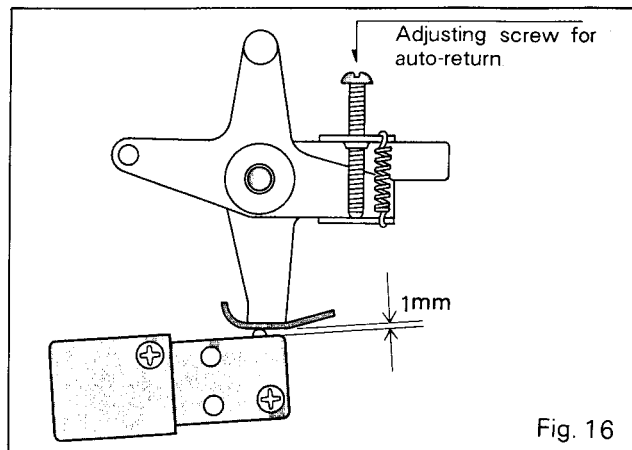

Fig. 16
- (1) Make sure the tone arm fixing plate is properly installed as shown in Fig. 16.
- (2) Put on a record and let the stylus drop slightly outside the end groove or 65 – 70 R from the center of the turntable. When the record ends, make sure the tone arm automatically returns from any of the following positions:
- (3) If the tone arm does not automatically return from all of the above positions, turn the adjusting screw in Fig. 16 to adjust the tone arm return position.
- Yes: Rotate adjusting screw (Fig. 16) of tone arm fixing plate counter-clockwise.
Rotate adjusting screw (Fig. 16) of tone arm fixing plate counter-clockwise.
Rotate adjusting screw (Fig. 16) of tone arm fixing plate clockwise.
- Yes: Adjust the clearance between the knob of microswitch and tip of tone arm fixing plate to 1 mm. (Fig. 16)